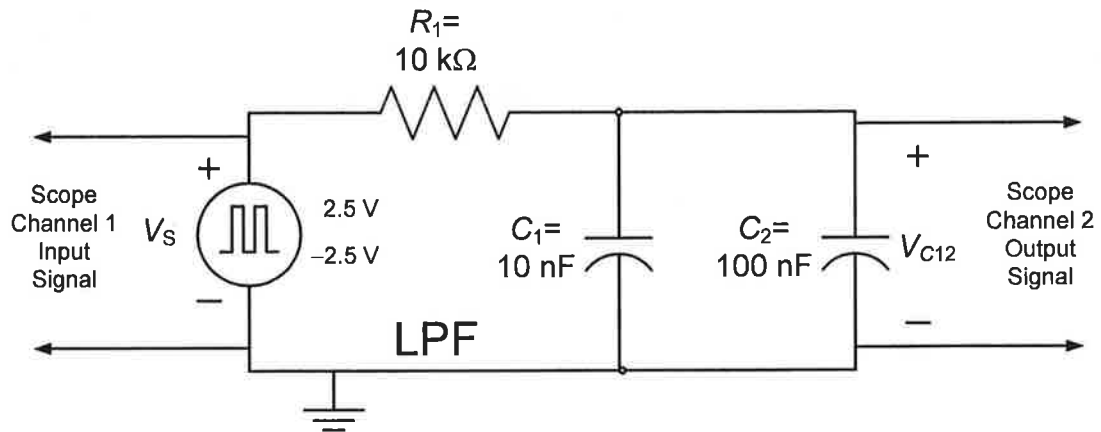

Figure 5. First-order  $RC$  circuit connected like a Low-Pass Filter (LPF).
**Pre-lab Assignment 1.e:** For the first-order  $RC$  circuit considered in Fig. 1, introduce a second capacitor  $C_2=100\text{ nF}$  in parallel with  $C_1=10\text{ nF}$  as shown in Fig. 5. Calculate the new time constant  $\tau_{\text{pre-lab}}$  or  $\tau_p$  of the circuit and the approximate time it takes for the two capacitors to fully charge or discharge.
**Lab Experiment 1.e:** Construct the first-order  $RC$  circuit shown in Fig. 5. Measure and record the actual value of the  $100\text{ nF}$  capacitor using the digital  $LCR$  meter. Recalculate the actual time constant  $\tau_a$  using the actual element values measured. Set the source frequency to  $50\text{ Hz}$ . Observe both  $V_S(t)$  and  $V_{C12}(t)$  waveforms on the oscilloscope display simultaneously. Sketch and label the waveforms.